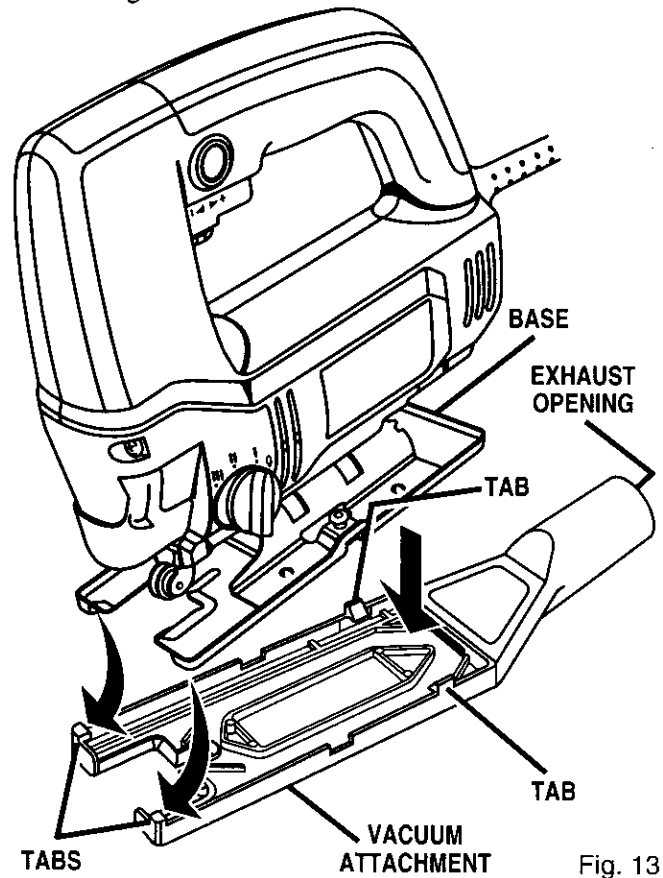

Fig. 13
- Place front of saw base under the tabs located on front of vacuum attachment and press to snap on. See Figure 13.